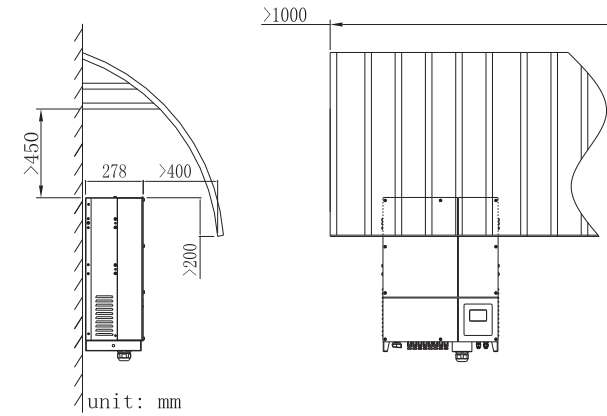

Fig 5.8
- Recommend awning installation, the purpose is to extend the inverter service life and reduce the power derating of the inverter. The dimension of the awning refer to Fig5.8.